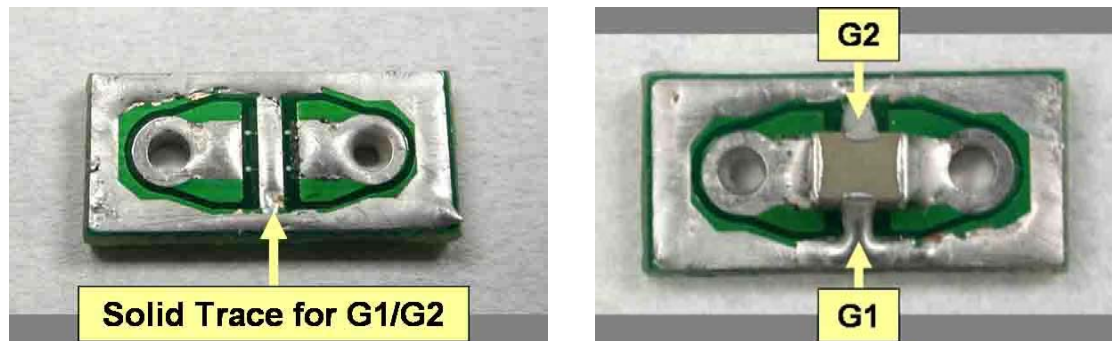

Figure 15. Both terminals, G1/G2, should be attached in parallel with a solid trace.
- i. Both G1 and G2 terminations on X2Y® should be soldered to a solid trace (Figure 15). By soldering both terminals to the trace, a parallel connection now exists from the component to the trace. (A more comprehensive discussion of this is described in Principle #4.)